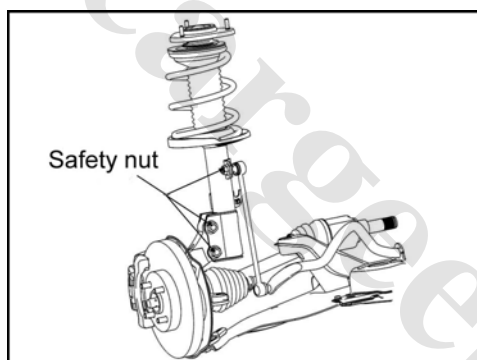

Fig. 2-20
① Remove the nuts connecting the connecting rod of front stabilizer bar and the front shock damper. Then dismantle the shock damper from the steering knuckle after removing the 2 nuts and bolts connecting the front shock damper assembly and the steering knuckle, as shown in Fig. 2-20.